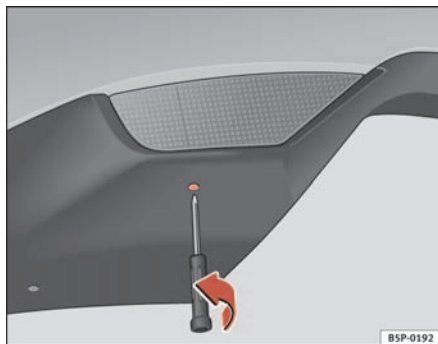

Fig. 185 Rear light fitted on bumper and viewed from below
- Insert the star-headed screwdriver in the opening on the lower section of the rear light and unscrew the screw in the direction of the arrow ⇒ fig. 185